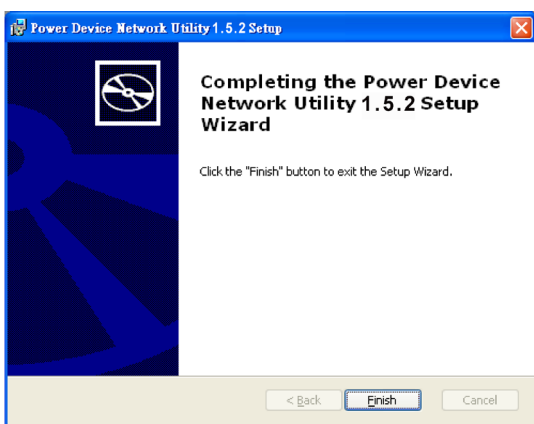

Figure 4
Step 5. Select **Finish** to finalize the installation (Shown in Figure 4).